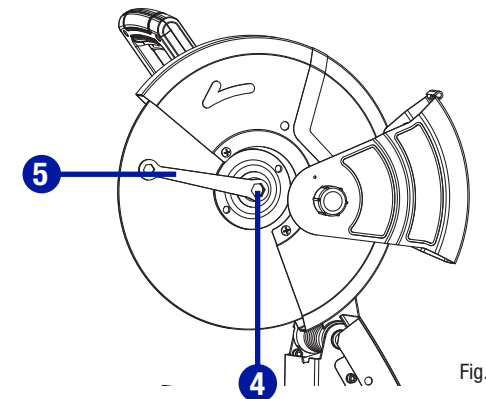

Fig. 8
- When the spindle lock button engages the arbour, tighten the arbour bolt (4) by turning it clockwise using the arbour wrench (5) supplied. (Fig. 8)